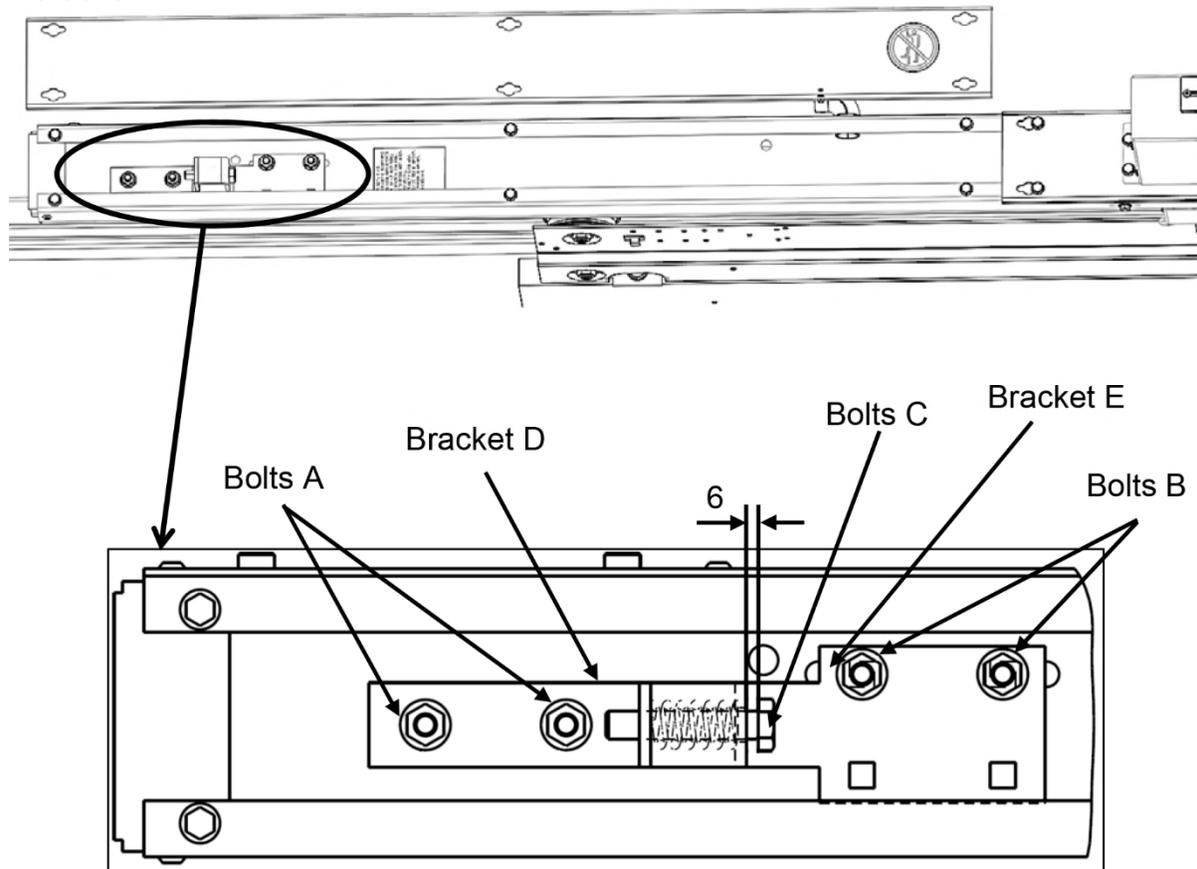

Figure 21: Adjusting Belt Tension
1. Remove the door operator cover by loosening the M6 screws (see Figure 21).
Nuts along the fully threaded sensor can be adjusted to move it up or down if the sensor gap is not correct. You can access the nut within the wire trough by removing the wire trough cover as shown in Figure 21.